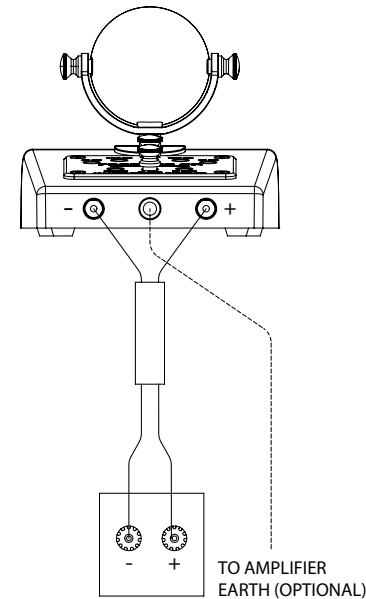

Fig. 1 Connecting in Single Wire Mode
**Single wired installation:** The SuperTweeter is simply connected across your speaker terminals. An optional earth cable can be taken back to your amplifier chassis or ground. (See Fig 1)